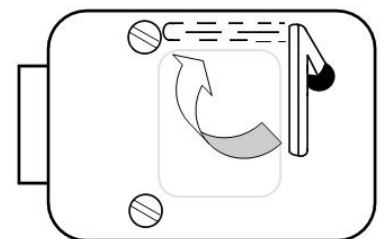

Figure 2. Turn the change key one-quarter turn clockwise to allow a new combination to be entered.
3. With the last number set at the changing index, hold the dial securely and insert the change key in the keyhole in the back of the lock. Make sure the wing is entirely inside the lock and comes to a positive stop (see Figure 2) before turning the key.
4. Turn key one-quarter turn to the **LEFT** (see Figure 2). With the change key in this position, set the new combination as follows: